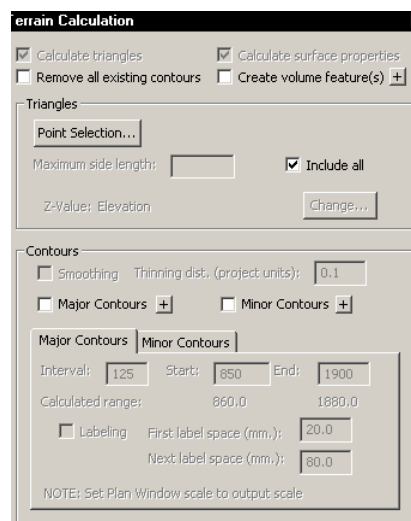

Figure 11.0: Terrain Calculation Dialog Box
3. Select Edit | Terrain Modelling | Calculate Terrain Model to activate the Terrain Calculation dialog box shown in Figure 11.0. Turn off all options except *Include All*. Press OK.